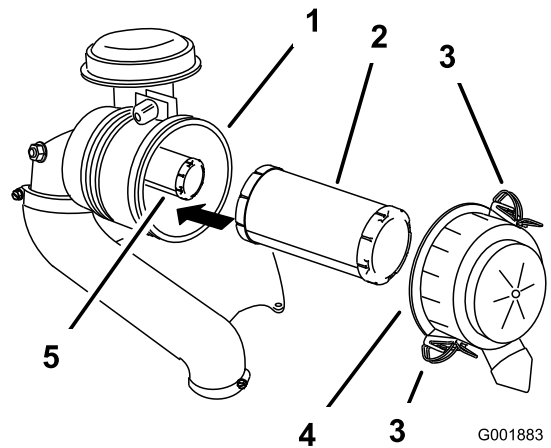

Figure 53
5. Gently slide the primary filter out of the air-cleaner body (Figure 53).
3. Release the latches on the air cleaner and pull the air-cleaner cover off the air-cleaner body (Figure 53).
2. If you are replacing the inner filter, carefully slide it into the filter body (Figure 53).
- Carefully slide the primary filter over the safety filter (Figure 53).
- Install the air-cleaner cover and secure the latches (Figure 53).